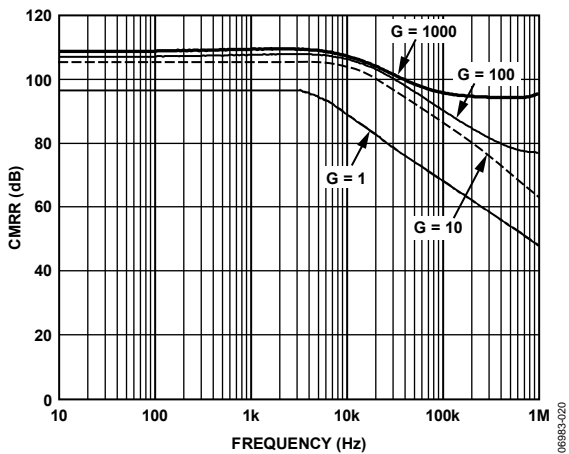

Figure 20. CMRR vs. Frequency
- 1 See Figure 20 for CMRR vs. frequency for more information on typical performance over frequency.